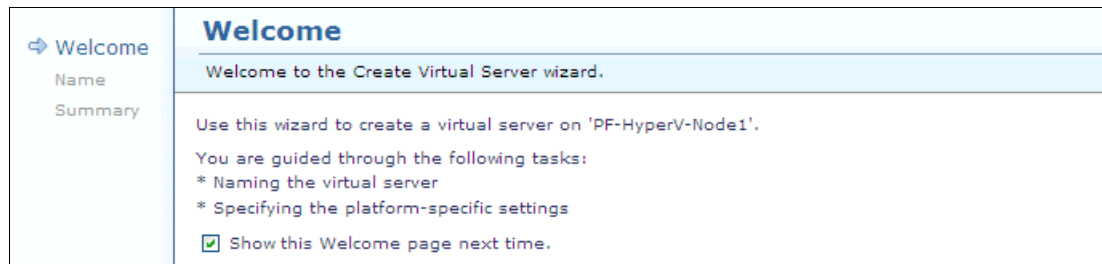

Figure 12-17 Create Virtual Server: Welcome page
- A Welcome window opens as shown in Figure 12-17. Click **Next**.